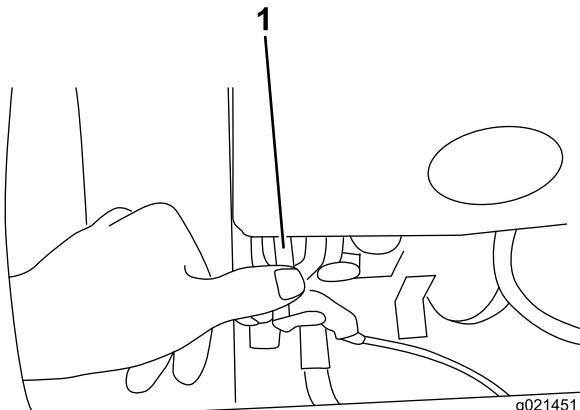

Figure 14
- 2. Push the red button of the engine-shutoff switch for 3 seconds to stop the engine (Figure 14).